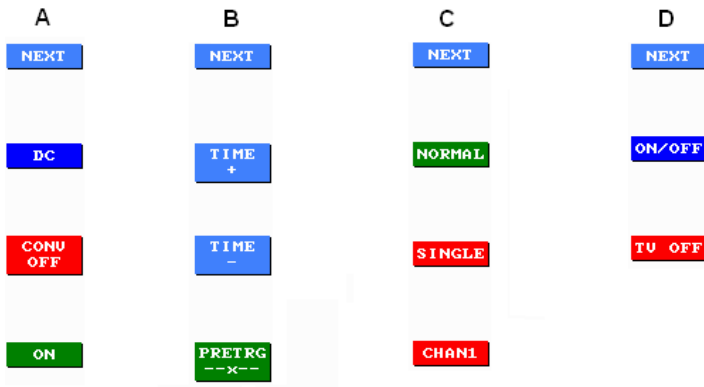

Figure 4.5
- hotkeys: You can use the F2, F3 and F4 keys or the icons next to these buttons for fast setting of the most used parameters. The type of the parameter which is currently being set depends of the previously chosen function. Figure 4.5 shows some examples of the icons for fast setting (A: choosing of the measuring channel's parameter, B: setting the time base, C: setting of the starting, D: setting of the measuring cursors)